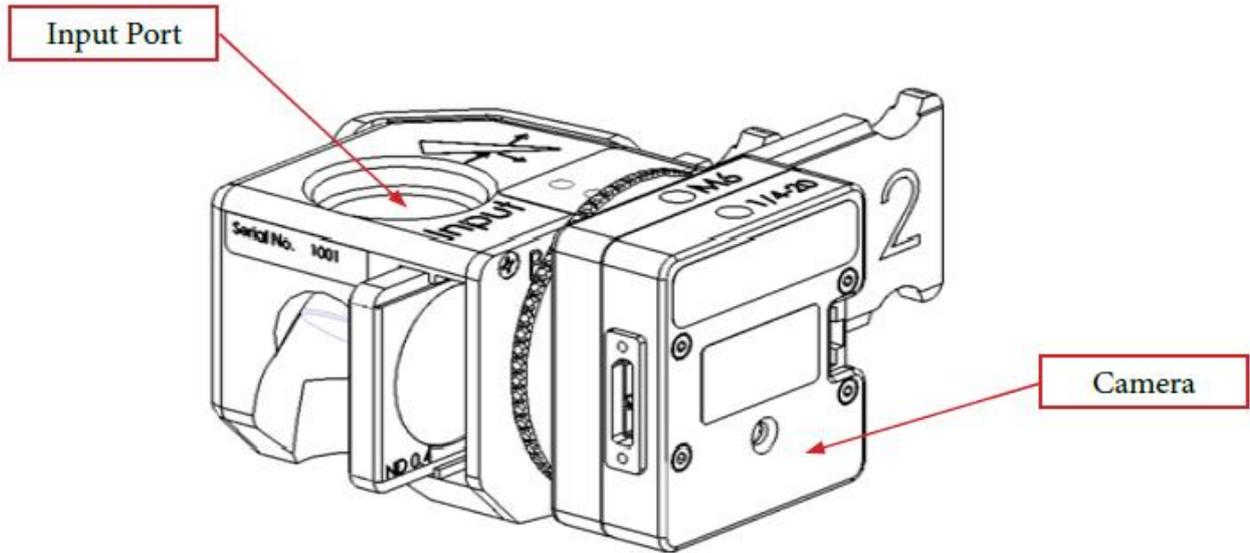

Figure 1
1. The LBS-300s is attached to the camera as shown above in Figure 1. An adjustable locking ring is provided so that the beam sampler can be rotated in any orientation.